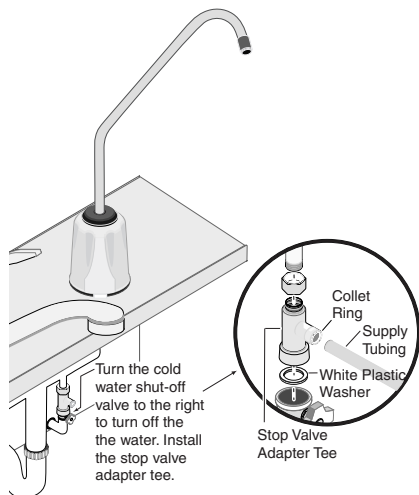

Figure 4
Install the stop valve adapter tee; See Figure 4.
10. Attach the stop valve adapter tee to the shut off valve as shown in Figure 4. Do not overtighten the adapter.